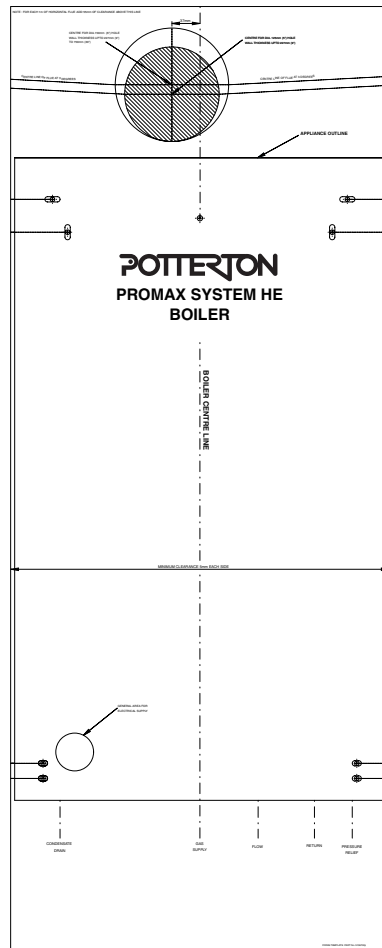

Fig. 20
1. Remove the fixing template (Fig. 20) from the fixing carton.